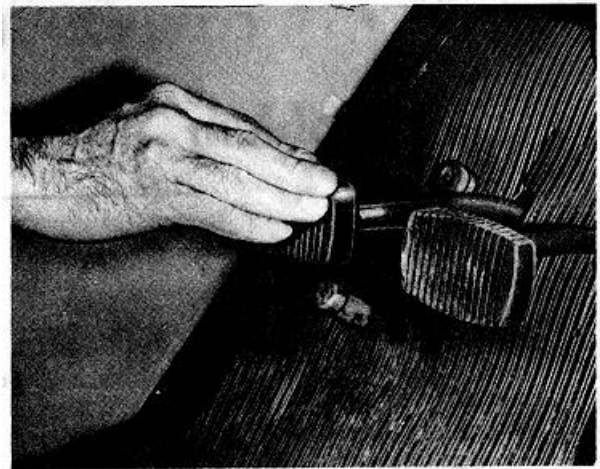

Figure 3. Checking Clutch Pedal 'Free Travel'
(1) Keep the clutch pedal in proper adjustment by frequent inspection of the clutch pedal 'free travel' which is the first easy movement of the clutch pedal.
(2) Check clutch pedal 'free travel' with hand to be positive that 'free travel' is a result of actual release bearing clearance and not caused by worn linkage. Fig. 3.
(3) Proper clutch pedal 'free travel' is approximately 1/2". The gradual reduction from this amount is a normal condition caused by wearing of the facings.